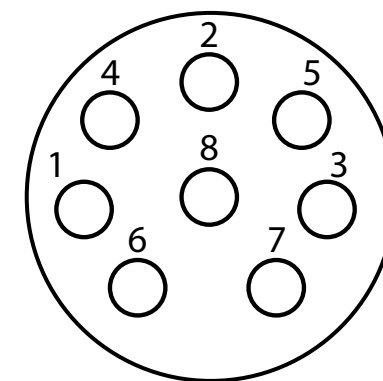

Figure 4 Rear-View Pinout Diagram
- C. **Custom Sensor In / Out:** See Rear-View Pinout Diagram (Figure 4) on the next page.
- I. **Dual USB Ports (2):** Plug in peripheral devices, such as a network adapter or a USB memory drive, for importing and exporting files, connecting to a network, and factory calibration. **NOTE:** The shaker must be powered off to load a USB flash drive. If the shaker has problems reading the USB memory drive, restart the device with the USB flash drive plugged in.